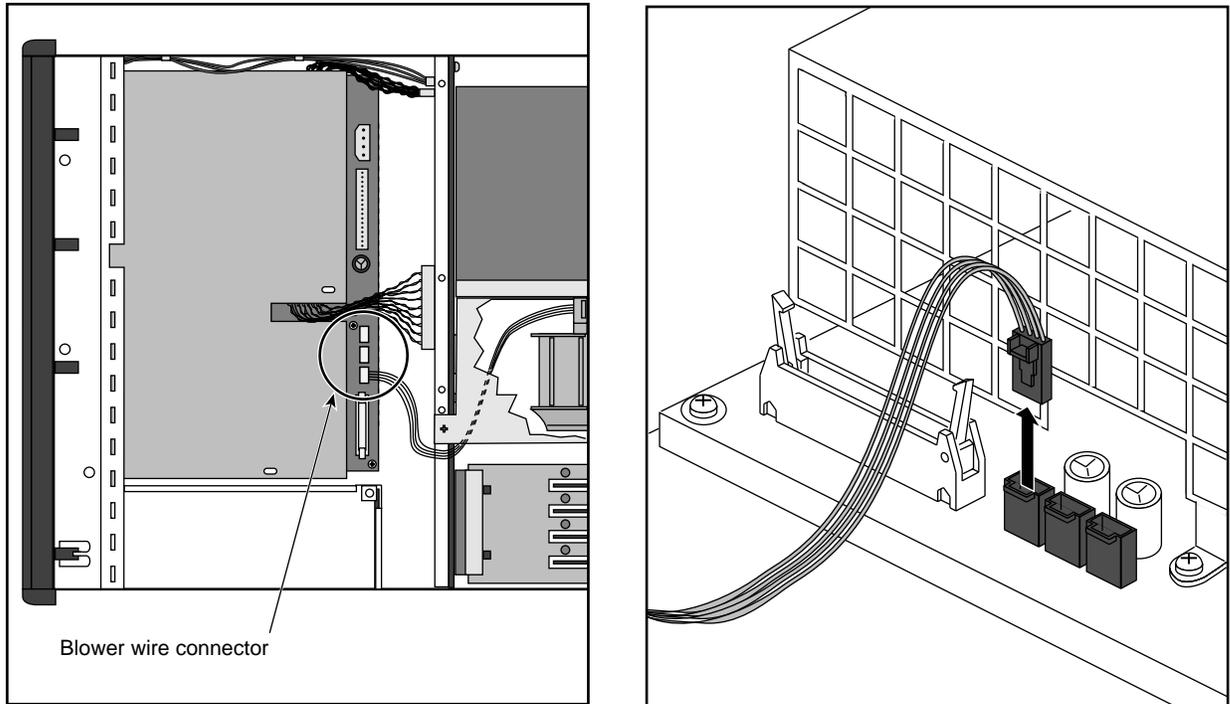

Figure 5-23 Unplugging the Blower Power Connector
- To unplug the connector, press the latch on the connector and lift it out of the socket, as shown in Figure 5-23.